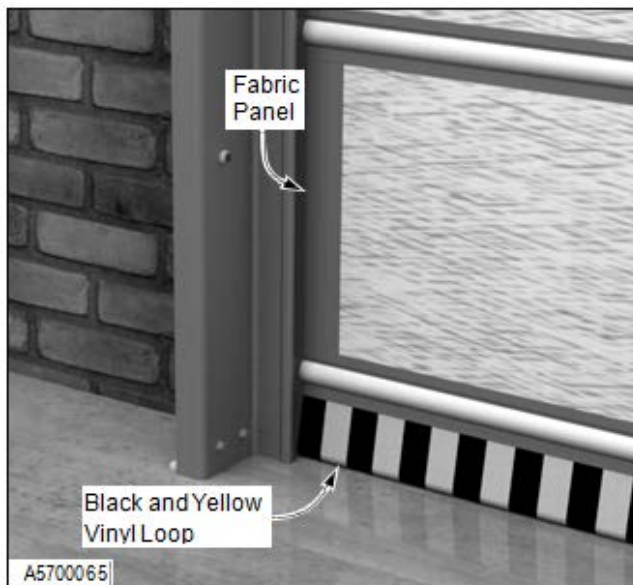

Figure 61
4. Ensure the panel is securely fastened to the bottom bar assembly. Tighten or replace loose or damaged mounting hardware as required. (See Figure 61)